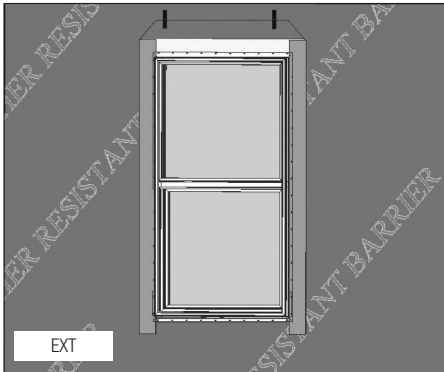

FIG. 12
- Cut and apply side flashing. Side flashing should run from the bottom of the sill flashing to 4" above the rough opening. (Fig. 12)